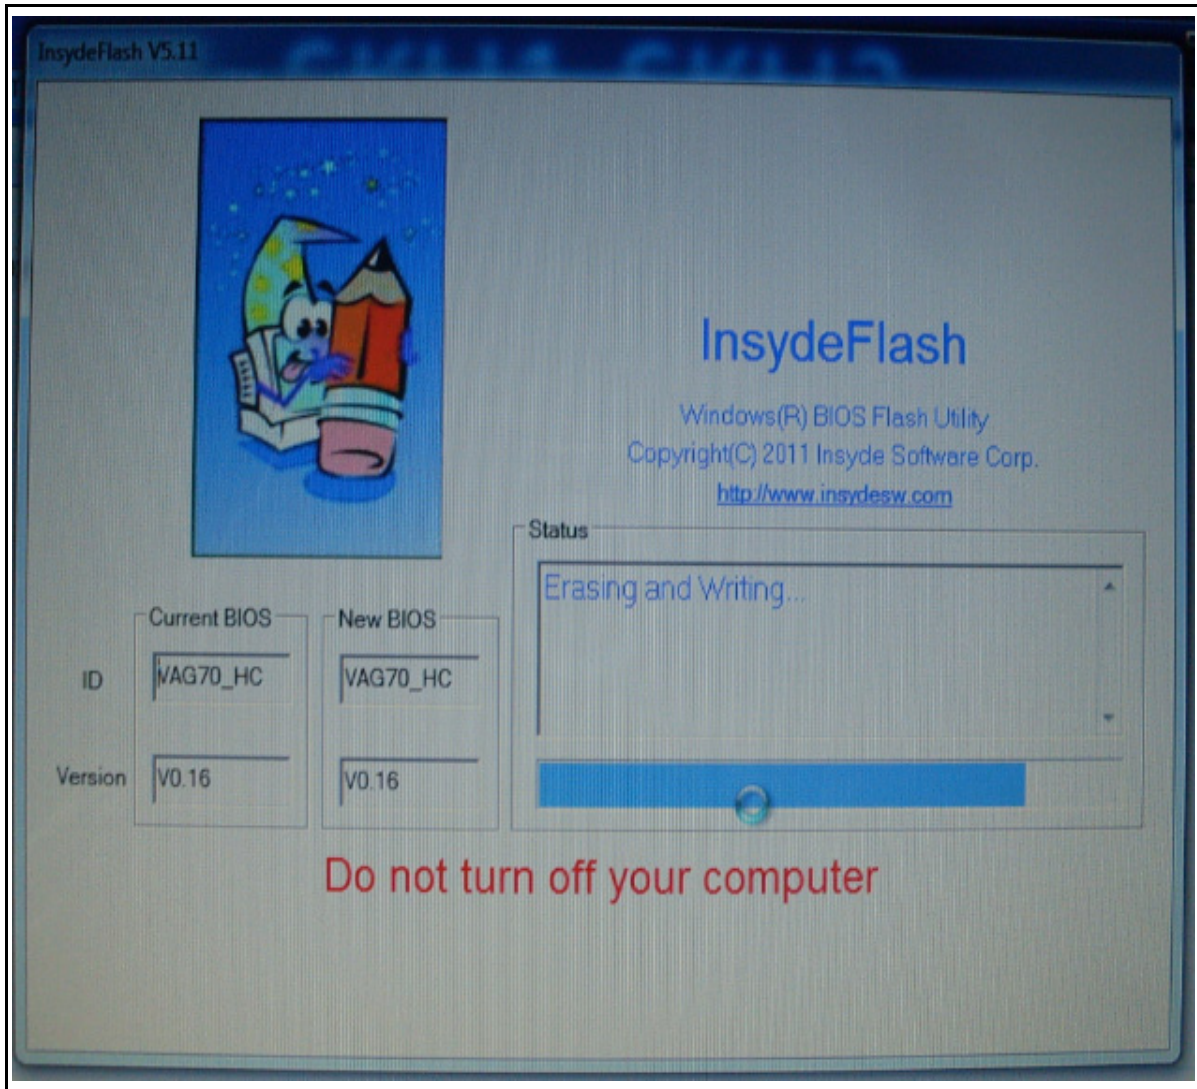

Figure 2-15. InsydeFlash
2. Click **OK** to begin the update. A progress screen is shown (Figure 2-15).